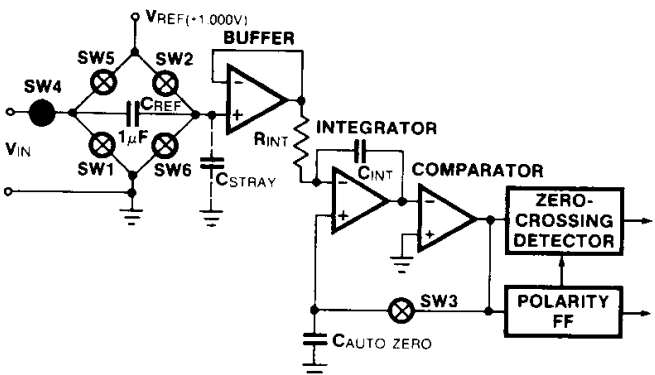

Figure 2B: Phase II Integrate Input
2. Input Integrate Phase II Fig. 2B.